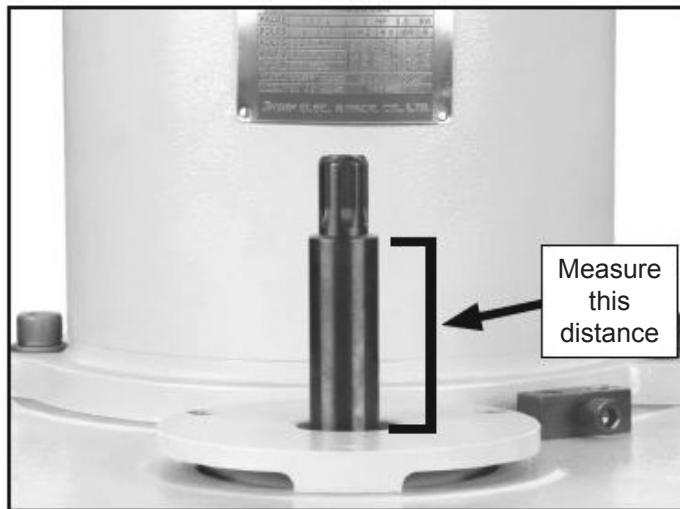

Figure 6. Checking the measurement
4. Insert the new bolt head into the top of the spindle, then measure the distance from the top shoulder of the bolt head to the mounting surface of the motor assembly (see Figure 6).